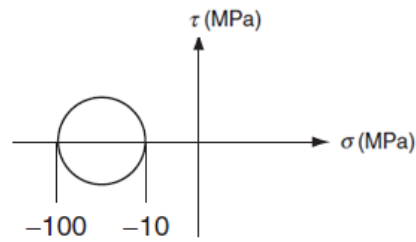

Figure 21 Question 33.
33. The Mohr's circle for plane stress for a point in a body is shown in Figure 21. The design is to be done on the basis of maximum shear stress theory for yielding. Then, yielding will just begin if the designer chooses a ductile material whose yield strength is: